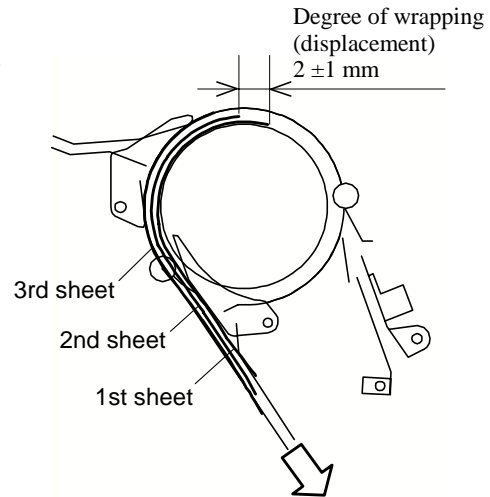

Fig. 2
5. Compare the degree (displacement) of wrapping against the standard (2 ± 1 mm; see Figure 2).